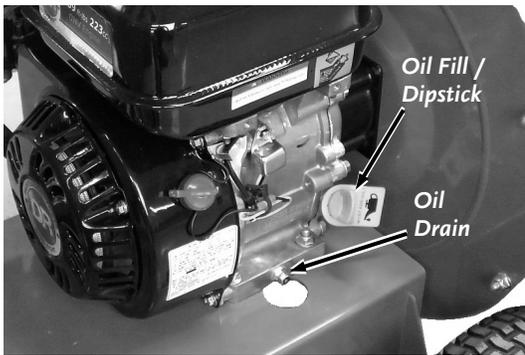
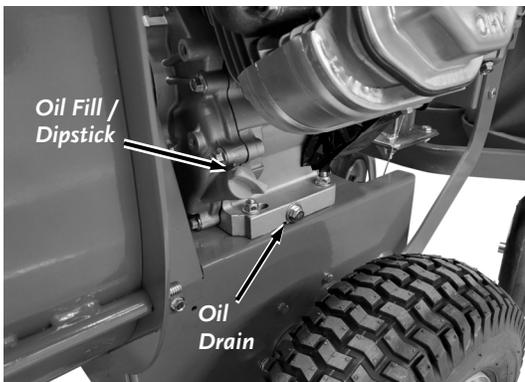

Figure 32
Figure 33
1. Position an Approved Oil Container under the machine below the Engine Oil Drain Plug. The Premier Drain plug is on the right-hand side of the Engine (**Figure 32**), and the Pro Is on the Left-hand side (**Figure 33**)